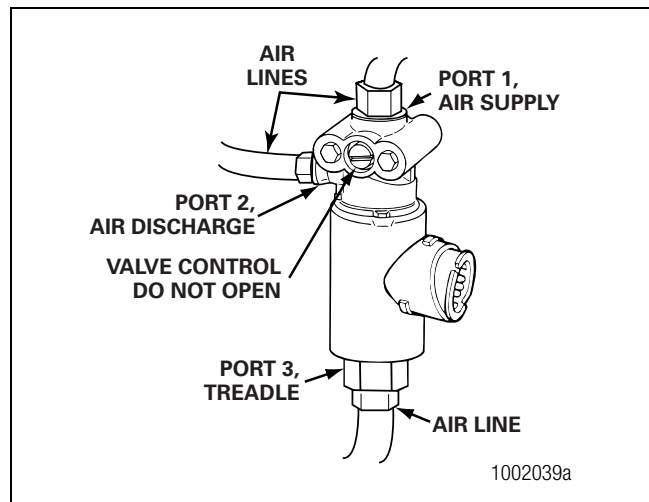

Figure 4.5
6. Disconnect the air lines from Port 1 (air supply), Port 2 (air discharge) and Port 3 (treadle) of the ATC valve. Figure 4.5.